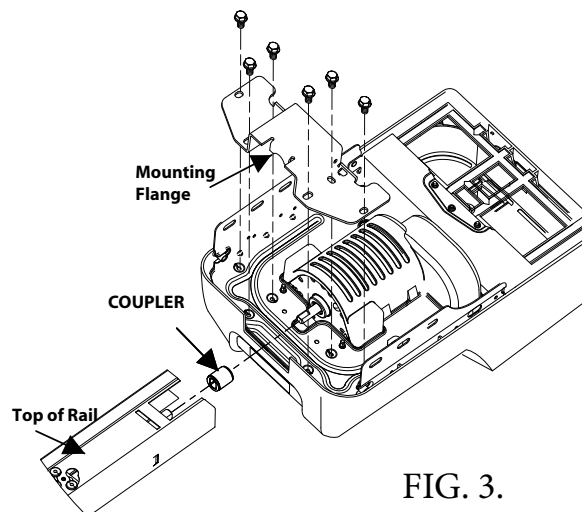

FIG. 3.
8. Remove the 6-7/16" self tapping bolts from the rail/motor mounting straps and pull rail from motor head. Fig.3. Set rail assembly aside.